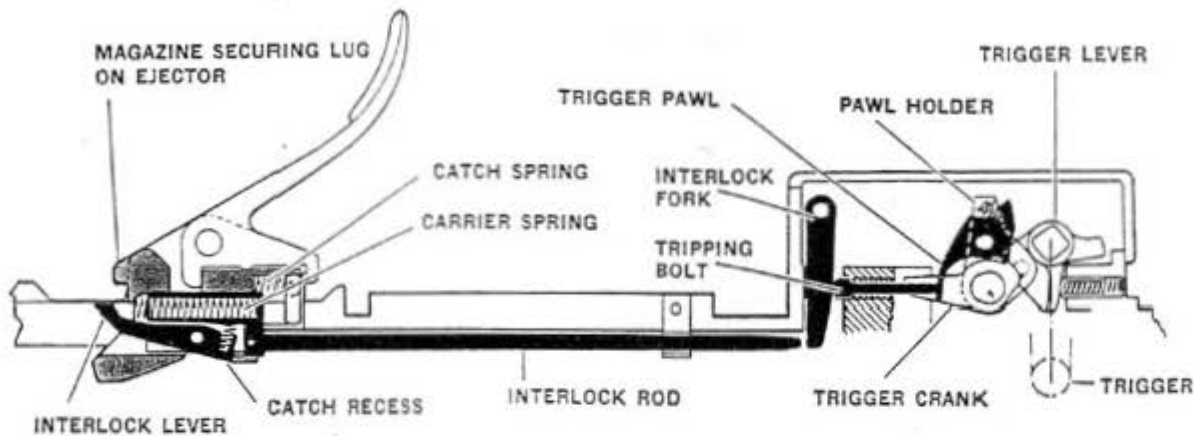
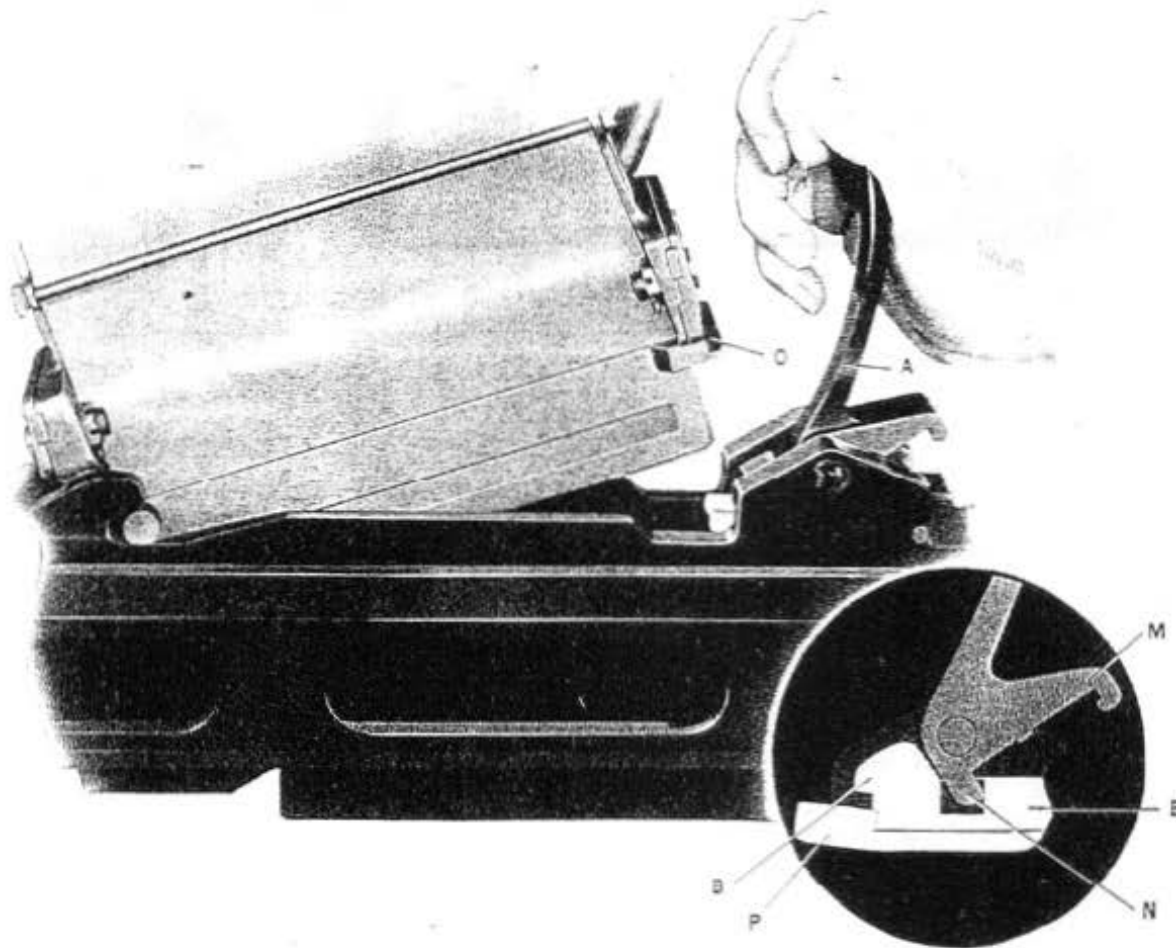

Figure 16—Magazine interlock gear in firing position
Figure 18—Unshipping a magazine—ejector moved to rear by hand pressure on catch lever and held to rear by catch
The ejector normally tends to move forward because of the pressure of the magazine catch spring, Figure 16. However, the ejector can be held cocked to the rear by the magazine catch (P), Figure 18. The magazine catch is pivoted at the rear and is able to rise in front. The magazine catch spring in addition to forcing the ejector forward, tends to force the catch into engagement with the front end of the ejector, as shown in Figure 18.
The catch may be disengaged without the necessity of shipping a magazine by pressing down the forward ends of the catch, using any suitable tool. The forward ends of the catch are visible in Figure 18.
CAUTION—When shipping a magazine the catch gear must be in the cocked position. The cocked position is shown in Figure 18, the magazine securing lug on the ejector being back of the front end of the catch. **NO ATTEMPT SHOULD BE MADE TO COCK THE GEAR BY FORCING A MAGAZINE PAST THE LUG.**